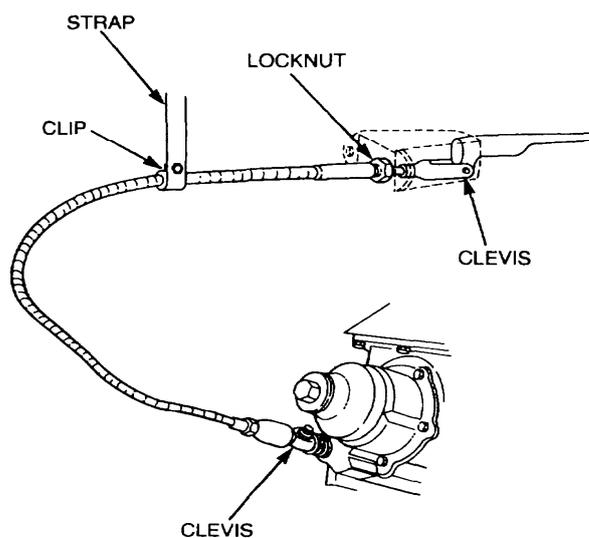

Figure 61 PTO Control Cable Removal
- a. Remove the split pin from the PTO lever clevis (Figure 61). Discard the split pin.
- b. Install the locknut on the cable and secure the cable to the seat base (Figure 61).